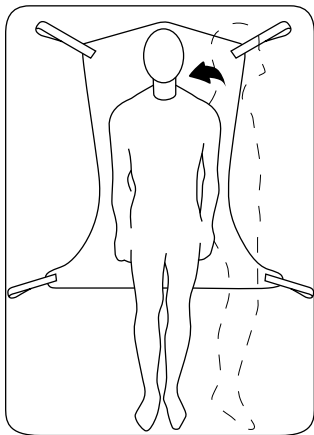

Figure 2
1. If the resident is to roll to his/her left side, then elevate the resident's right knee until the right foot is flat on the bed (see figure 2).